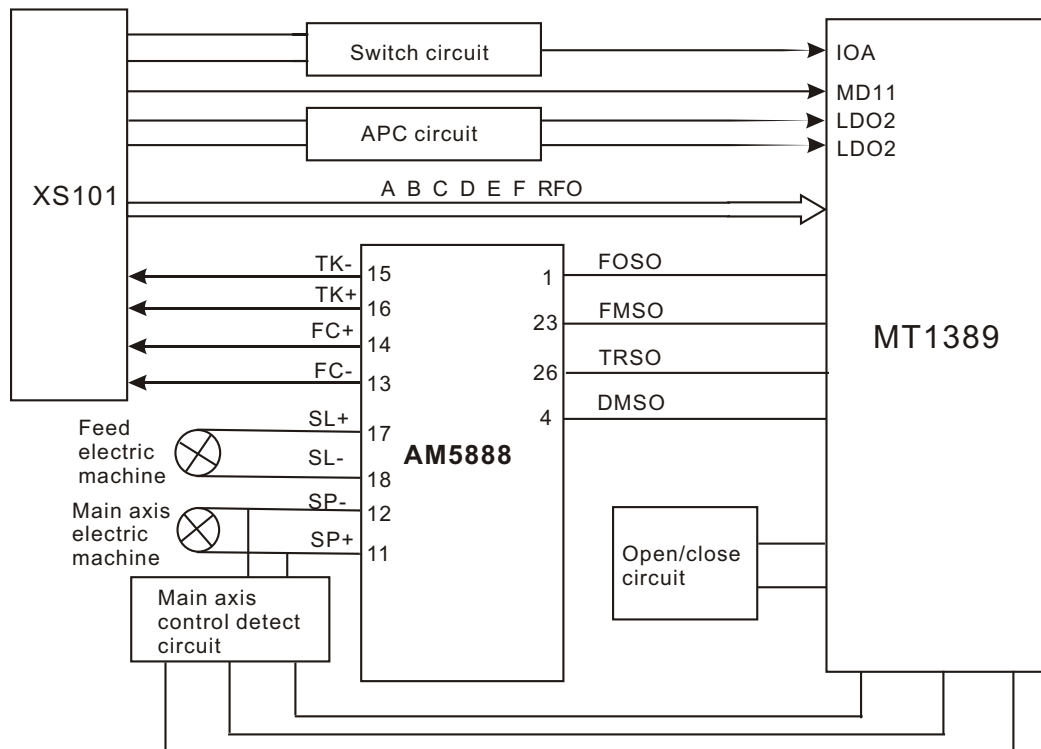

Figure 3.2.2.1 Servo circuit block diagram
1. Servo system of this player adopts SANYO 65 loader and MTK decode solution (MT1389HD+FLASH (16M) +SDRAM (64M)), and its servo circuit is mainly composed of front end signal processing, digital signal processing and digital servo processing, digital signal processing IC MT1389E and drive circuit Am58888, in which Mt1389 is also the main part of decode circuit. Servo circuit block diagram is shown in the figure 3.2.2.1: